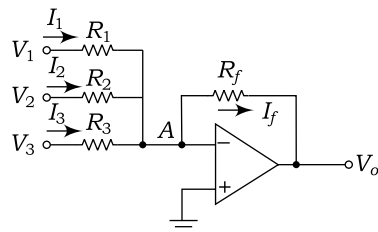

Fig. 7.103
22. Figure 7.103 shows an adder circuit with $V_1 = 2 \text{ V}$, $V_2 = -5 \text{ V}$ and $V_3 = 4 \text{ V}$. Determine the output voltage V_O . Assume $R_1 = 20 \text{ k}\Omega$, $R_2 = 10 \text{ k}\Omega$, $R_3 = 20 \text{ k}\Omega$ and $R_f = 10 \text{ k}\Omega$